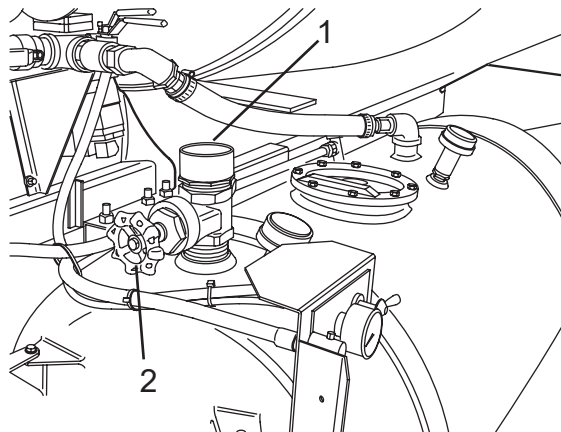

Figure 113
2. Open the chemical tank gate valve (Figure 113, Item 2) and fill the chemical through the inlet (Figure 113, Item 1).
3. Connect a water supply hose to the inlet (Figure 113, Item 1) and fill tank.